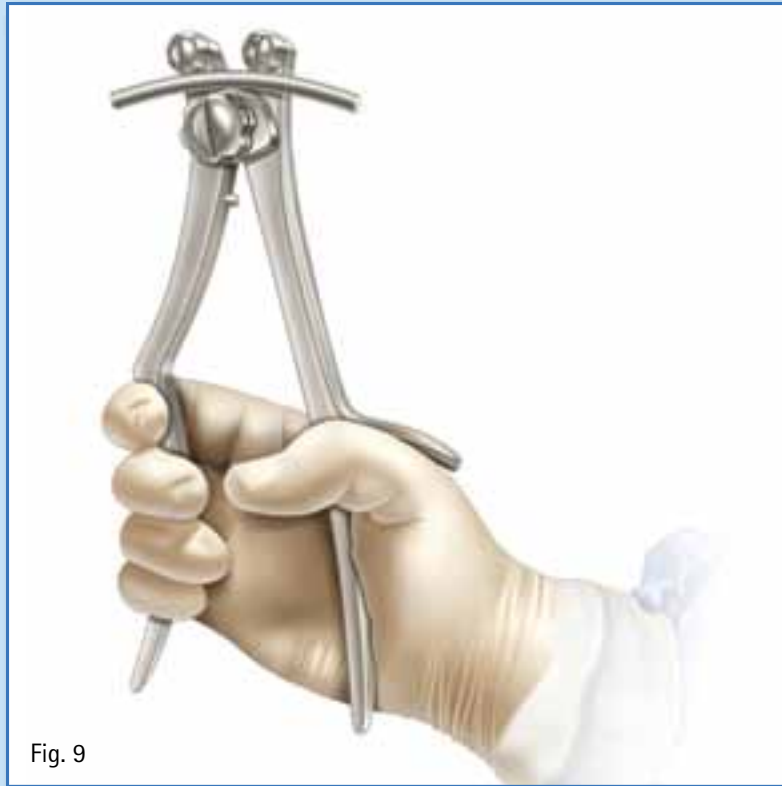

Fig. 9
- To contour the rod, place rod on the bender and squeeze the handle until the desired curvature is achieved. (Fig. 9)